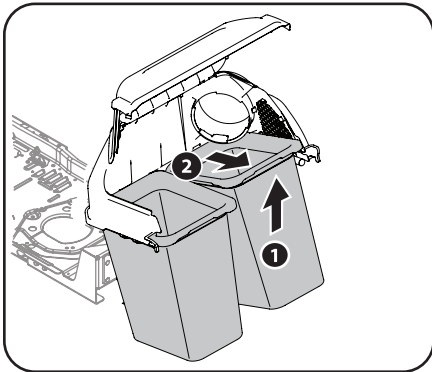

Figure 5-2
2. Remove the grass bags by lifting these up (1) and moving the bags away from the bag support assembly (2). See Figure 5-2.